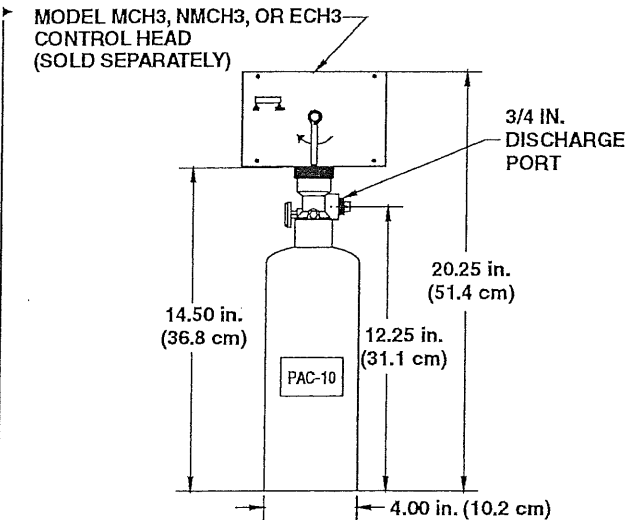

Figure 2-8. Model PAC-10 Pneumatic Actuating Cylinder.
The Model PAC-10 is a pneumatic actuating cylinder that can actuate a maximum of ten (10) agent cylinders simultaneously. The Model PAC-10 includes a DOT 4BA350 cylinder pressurized with dry nitrogen to 350 PSIG @ 70° F., a brass valve with pressure gauge, and a wall mounting bracket. A Model MCH3, NMCH3 or ECH3 control head must be purchased separately and connected to the PAC-10 to open the valve. See Figure 2-8.